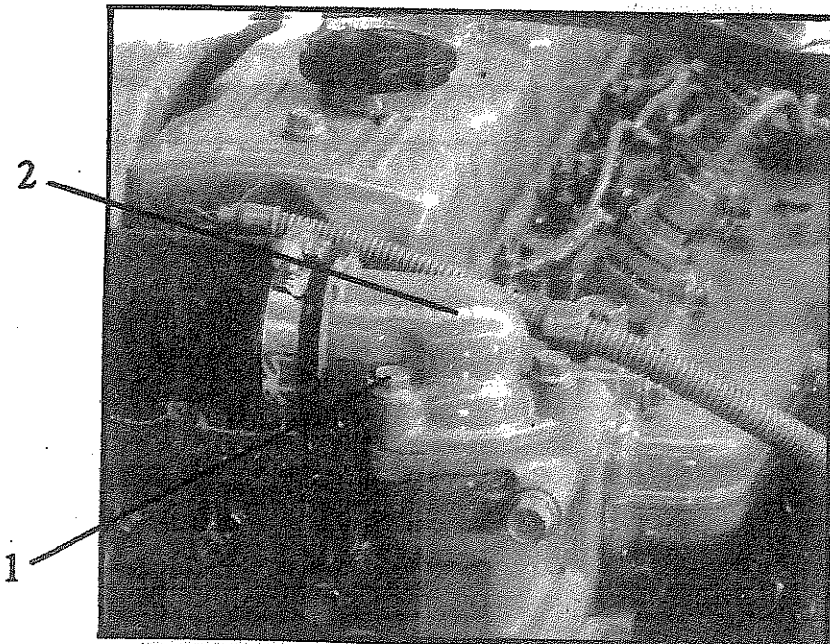

Figure 20
- 4) Disassemble the three positioning screws (1) in the upper body base and remove the upper body (2) of Fig. 20.
- 7) If the seal is damaged on disassembly, replace the seal and fit the upper cap with the three positioning screws (1) of Fig. 20.